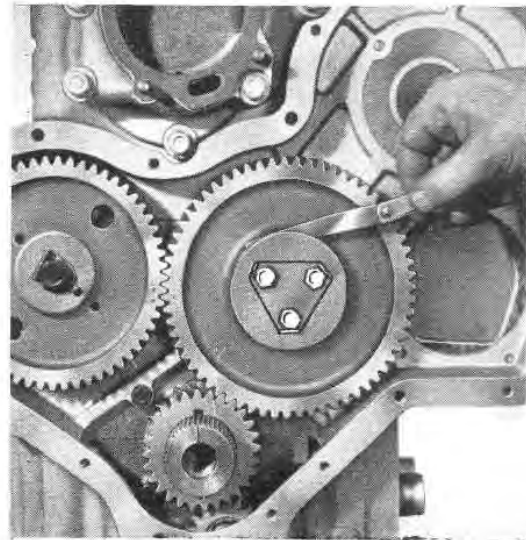

Fig. B40 — Checking Idler Gear End Float
5. Refit the idler gear retaining plate with the three setscrews tightened to a torque of 21/24 lb./ft. and secure with lockplate. Check idler gear end float (Fig. B40). This should be between 0.003/0.077 in.